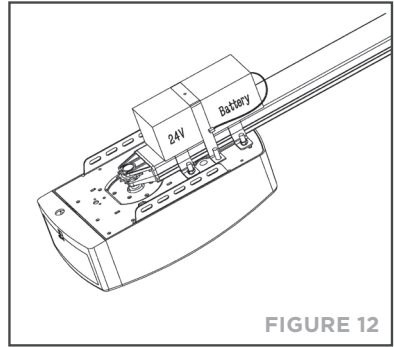

FIGURE 12
STEP2 (Fig.12)
Assemble the battery to opener, (Fig.12), fix by screws supplied.